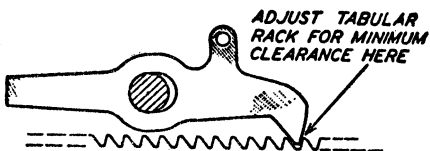

Figure 5. Tab Rack Adjustment
10. **THE TAB RACK** should be adjusted to the left or right so that the escapement pawl will enter the rack as shown in Figure 5 after striking a tabular stop. This can be checked by raising an interposer and turning the power roll by hand until the tabular cam is on its high point. This will cause the carriage to move until the interposer meets and rests against a stop. At this point, slowly turn the power roll backward and observe the pawl entering the rack. The standard machine test of tabulating, back spacing twice and tabulating again to the same stop is not effective on Decimal Tabulation.